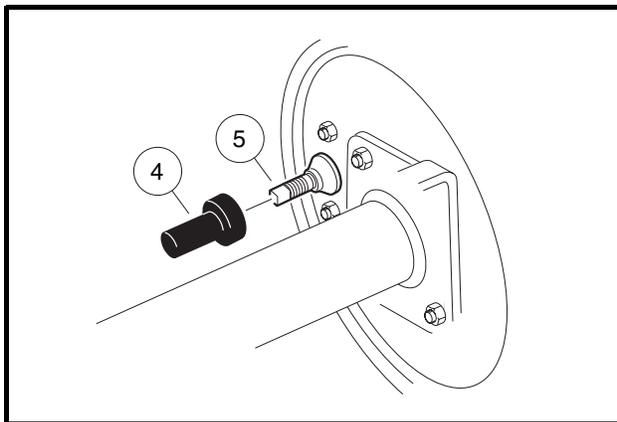
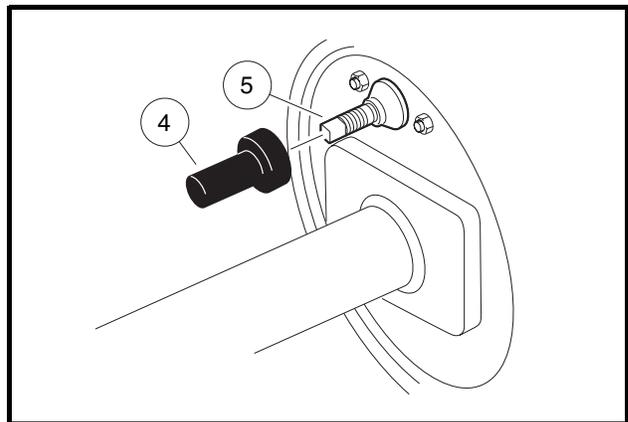

Figure 6-29 Front Brake Adjustment Bolt
Figure 6-30 Rear Brake Adjustment Bolt
3. Remove the dust cover (4) on the left and right rear brake cluster assemblies (**Figure 6-29, Page 6-13 and Figure 6-30, Page 6-13**).
3. Install the rubber dust covers (4) over the brake adjustment bolts (5) (**Figure 6-29, Page 6-13 and Figure 6-30, Page 6-13**).